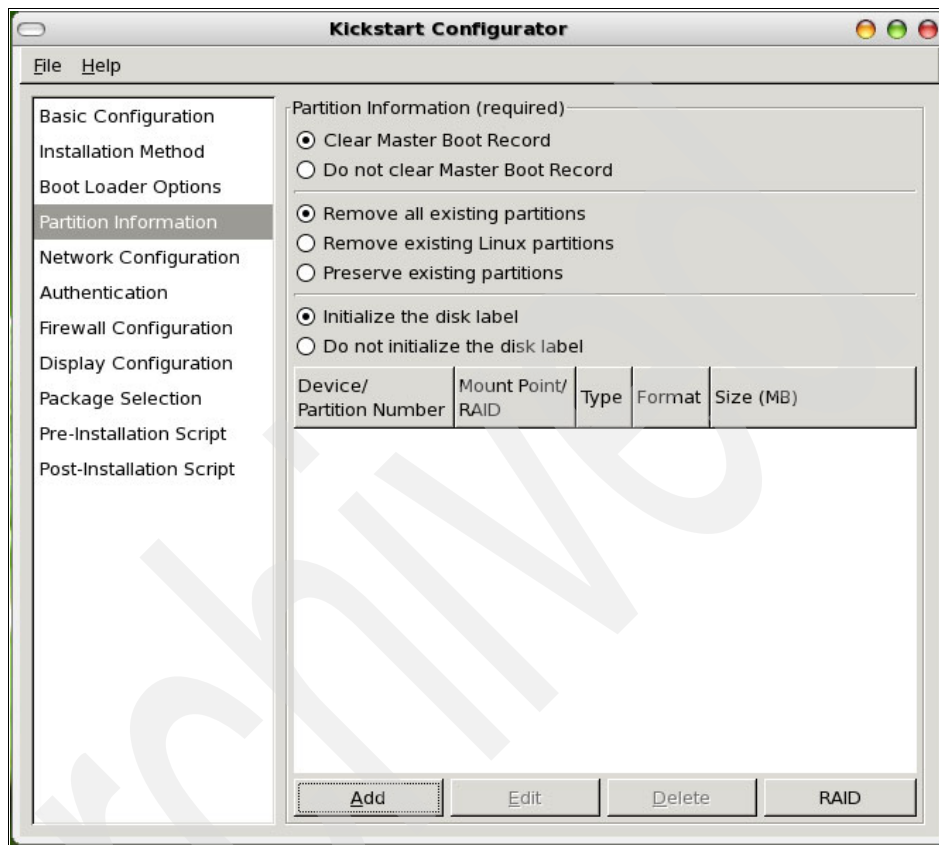

Figure 8-25 Partition Information panel (©2008 Red Hat, Inc.)
4. The next editable panel is the Partition Information panel, shown in Figure 8-25. Click **Add** to create a partition. The tool helps you select the mount point, file system type, and partition size.